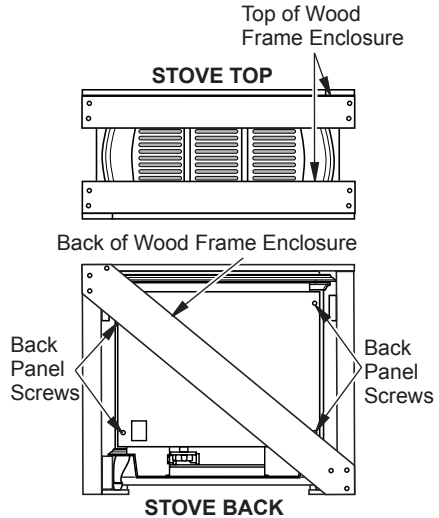

Figure 4 - Unpacking Stove from Wooden Shipping Enclosure
4. Remove back panel from stove (see Figure 4). Use an adjustable wrench or a 10 mm socket. Remove 4 bolts and washers. Keep bolts and washers to reattach back panel later.